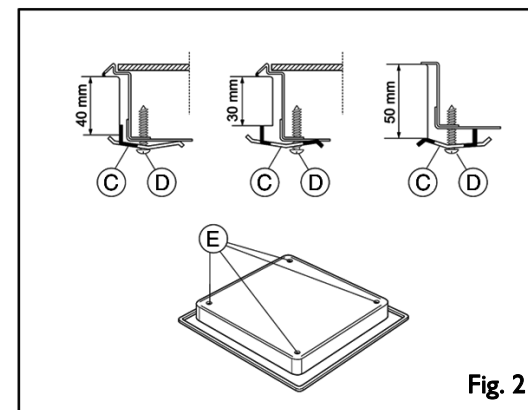

Fig. 2
Attention: to install the hob on other surfaces than wood (marble, plastic, ceramic, marble, stone, etc.) remember to ask After Sales Service for the fixing plates (fig. 2) Code 4819 404 78697.
- **If the worktop is made of marble, plastic, ceramic, stone, etc.**, the hob must be secured with special brackets (C) (fig. 2).
2. Place the 4 brackets (C) in position in accordance with the thickness of the worktop as shown in fig. 2.
3. Fasten the 4 screws (D) in the positions (E) (fig. 2).